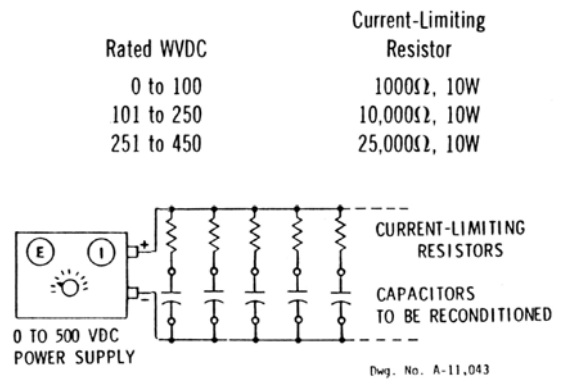

Figure 1
3. Remove the capacitors from the oven and immediately apply 110% of the rated DC voltage in a circuit arranged as shown in figure 1 below; in other words, if you are re-forming a capacitor that has a working